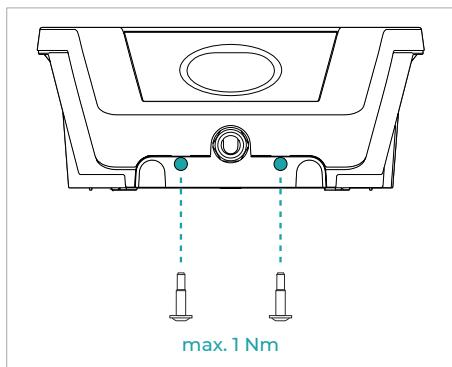

Fig. 10
- Fasten the outer frame on the charging system using the supplied screws at the positions shown in **Fig. 10**.